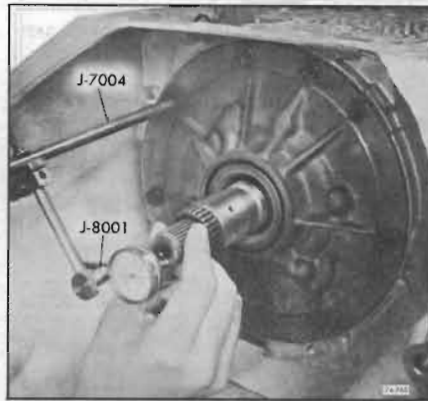

Figure 74-765
24. Check front unit end play as follows: See Figure 74-765.